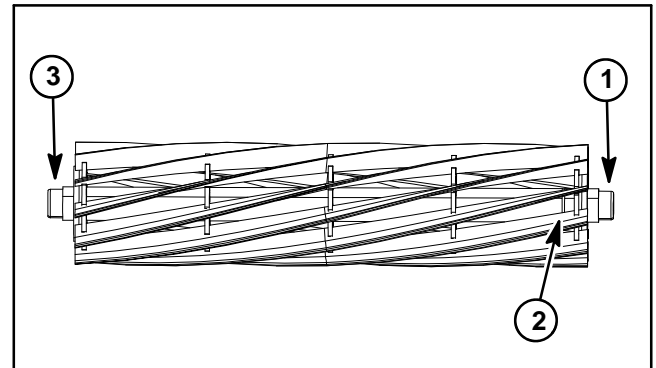

Figure 37
1. Remove bearing lock screw (item 5) and reel drive shaft (item 4) from cutting reel. Reel drive shaft has LH threads and is in end of reel shaft identified with a groove that is just inside of reel spider (Fig. 37).
4. Install bearing lock screw (item 5) and reel drive shaft (item 4) into reel shaft to secure bearings. Reel drive shaft has LH threads and should be installed in end of reel shaft identified with a groove that is just inside of reel spider (Fig. 37).